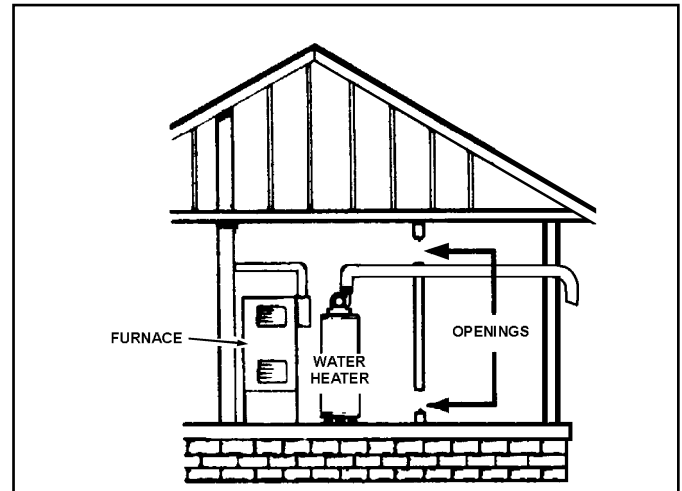

Figure 17.
A. ALL AIR FROM INSIDE BUILDINGS: (See Figure 17)